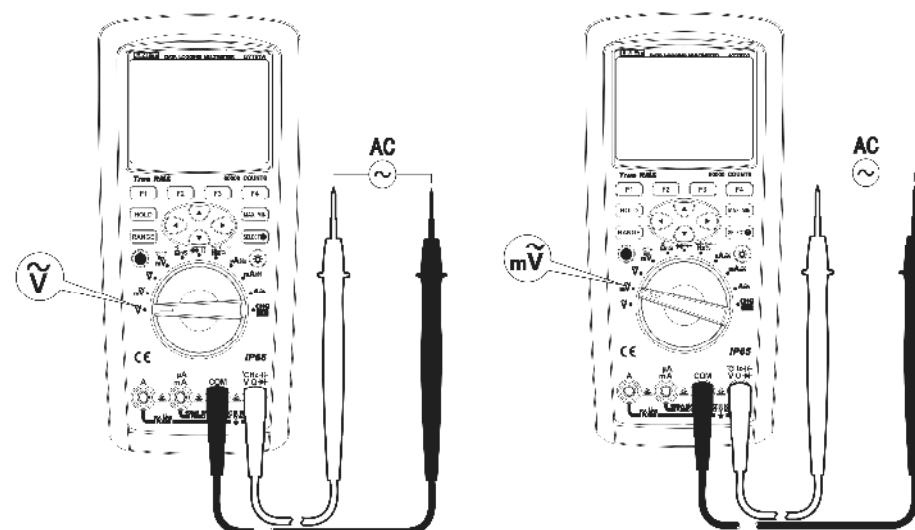

Figure 5
- 2) Set the rotary switch to $\tilde{V}$ or $m\tilde{V}$ as shown in Figure 5. Connect the test leads to the power or load under test in parallel.